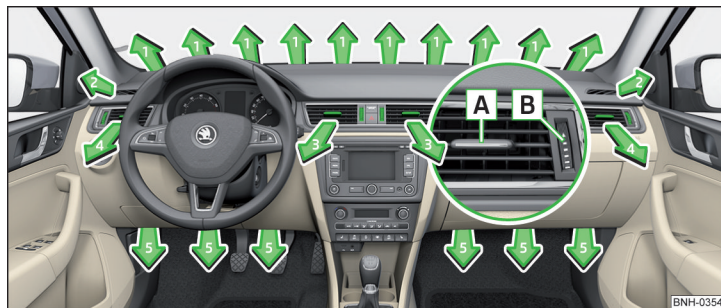

Fig. 83 Air outlet vents
The direction of airflow can be adjusted using the air outlet vents **3** and **4** » Fig. 83 and the outlets can also be opened and closed individually.
- To change the height of the air flow, turn the horizontal fins upward or downward using the movable adjuster **A** » Fig. 83.
- Turn the regulator **B** » Fig. 83 upwards.
- Turn the regulator **B** » Fig. 83 downwards.